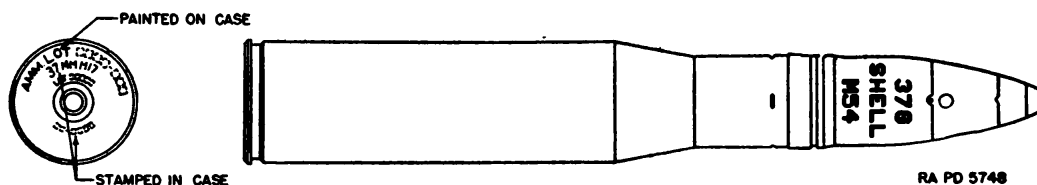

FIGURE 115.—Shell, fixed, HE, M54, with SD tracer and PDF M56, 37-mm automatic gun M1A2.
(2) *Marking.*—(a) The following information is stenciled on the projectile as illustrated in figure 115: